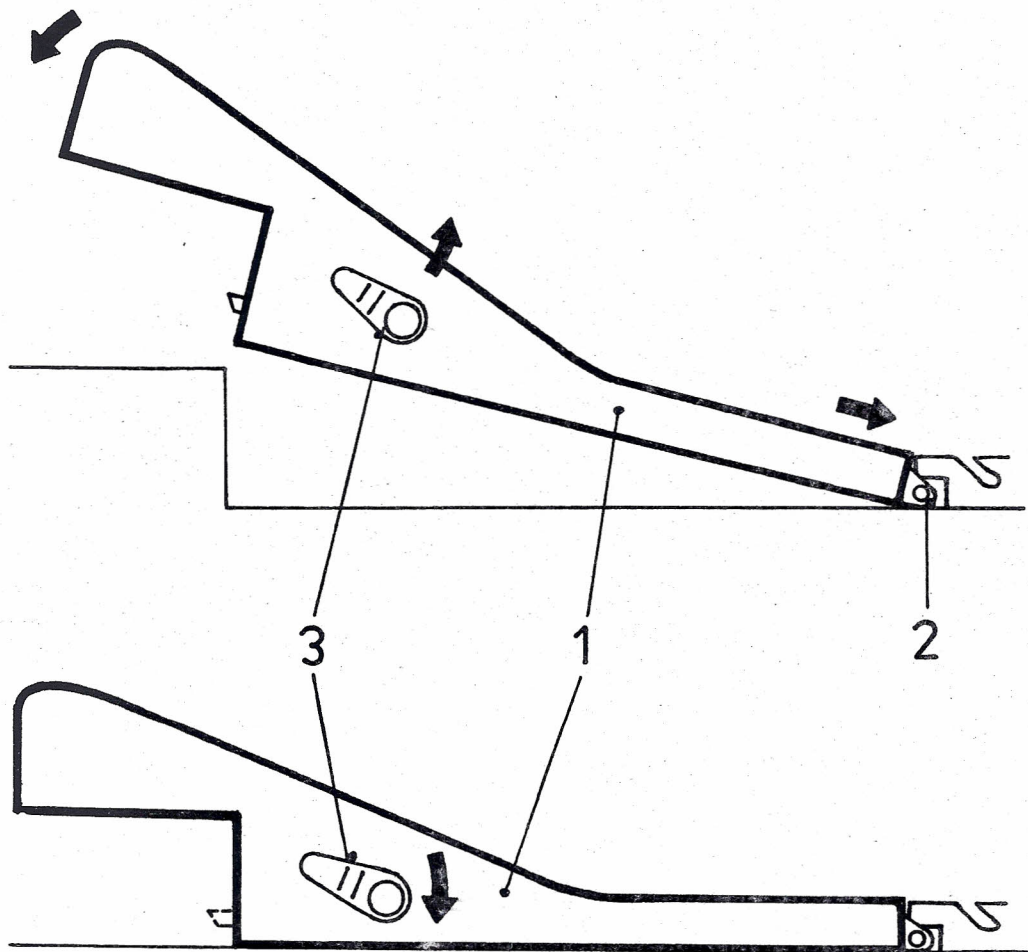

FIG. 7-1
A. Seat installation, Fig. 7-1
2. Put the seat with ballast into the free space and insert stirrups (pos. 2) in the rear part of the seat into the chamber on the rest suspender.
3. Move the levers on the seat sides upwards (pawls will shift in the seat face) and fold the seat (pos. 1) to the floor.